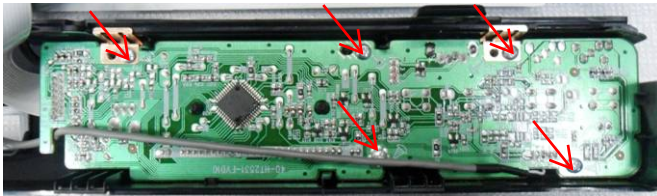

Figure 4
Step4 : Dismantle Front Control Board,remove 5 screws (Figure 4)